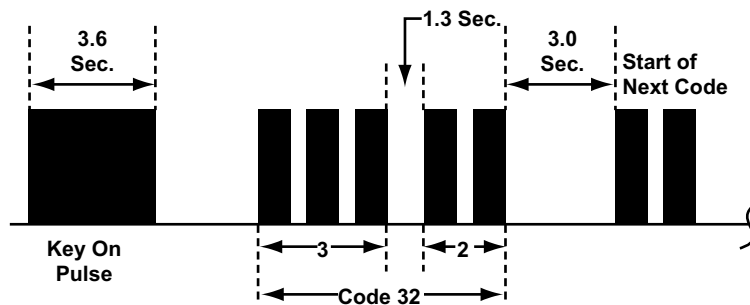

Figure 4-25 Acura ABS Code Type 06
- Type 06, see Figure 4-25 and Table 4-11 on page 27